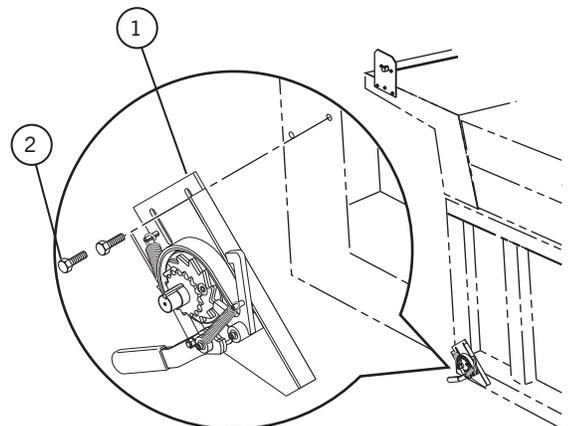

Figure 12-2
- 2) **Figure 12-2.** Place the crank assembly at or near the bottom front corner of the box on the driver's side. Rotate the crank assembly so that it angles toward the tarp roll up bar.